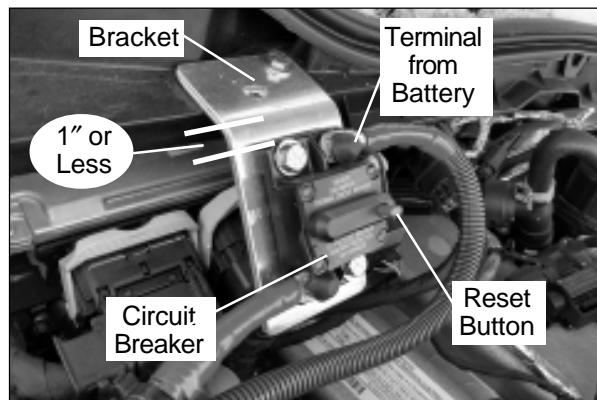

Figure 2 — Incorrect Breaker Bracket
3. Carefully measure the length of the circuit breaker mounting bracket from the bend in the bracket to the top of the circuit breaker. *NOTE: do not touch the circuit breaker terminal from the battery with a metal measuring tape. If the measured section is 1 inch or less, the bracket must be replaced (refer to Figures 2 and 3). Order the Bracket Replacement Kit, part number 970738120, and install the new bracket within 30 days of receipt of this MAB. Proceed to Step 4.*
7. Inspect the cover to be sure it does not interfere with the red reset button on top of the circuit breaker (refer to Figure 2). Trim the cover as needed to prevent interference, but still covers the top circuit breaker post.